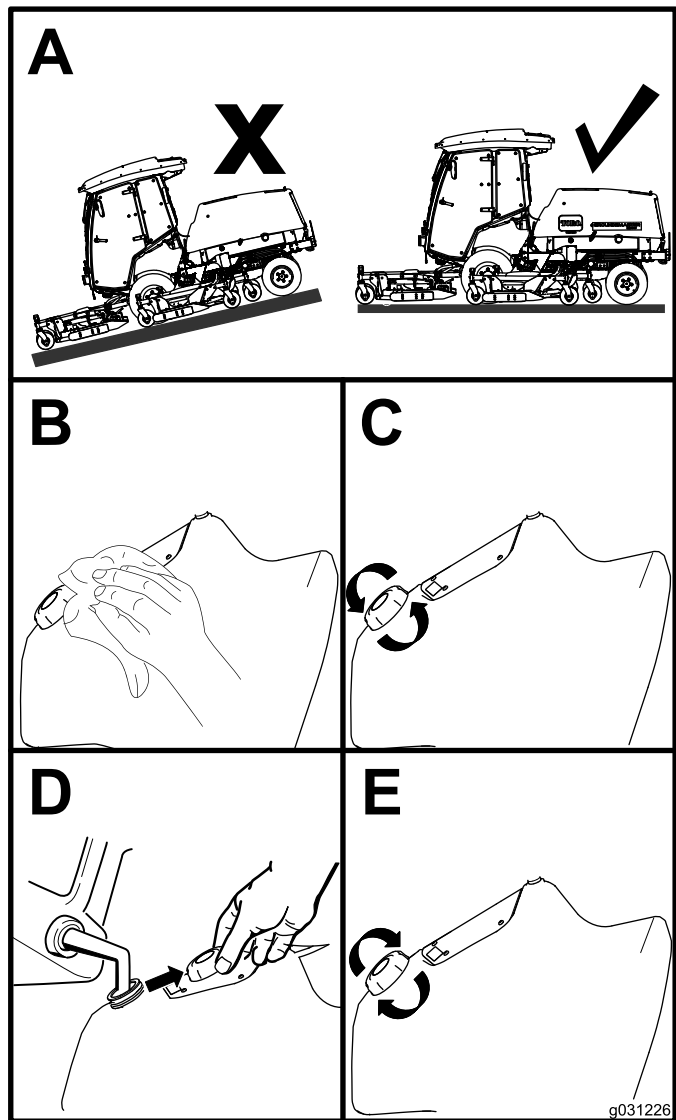

Figure 16
1. Park the machine on a level surface (Figure 16).